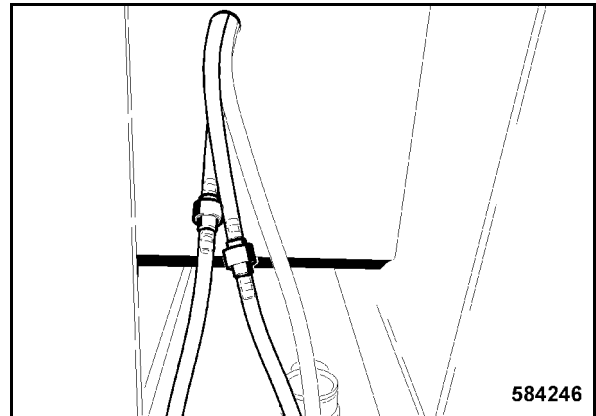

Fig. 226
- Plug on the hoses for the washing water supply to front and rear windscreens 1 (Fig. 226).